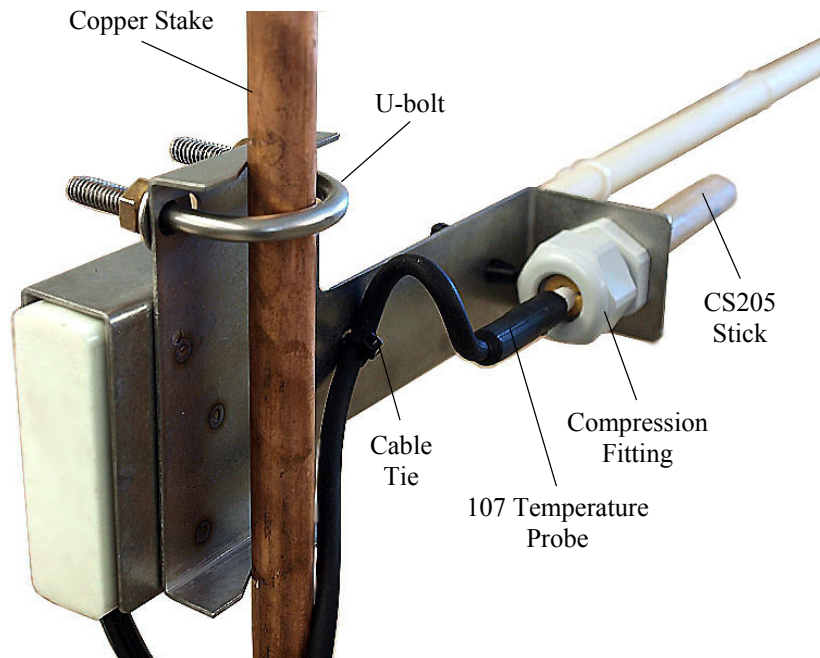
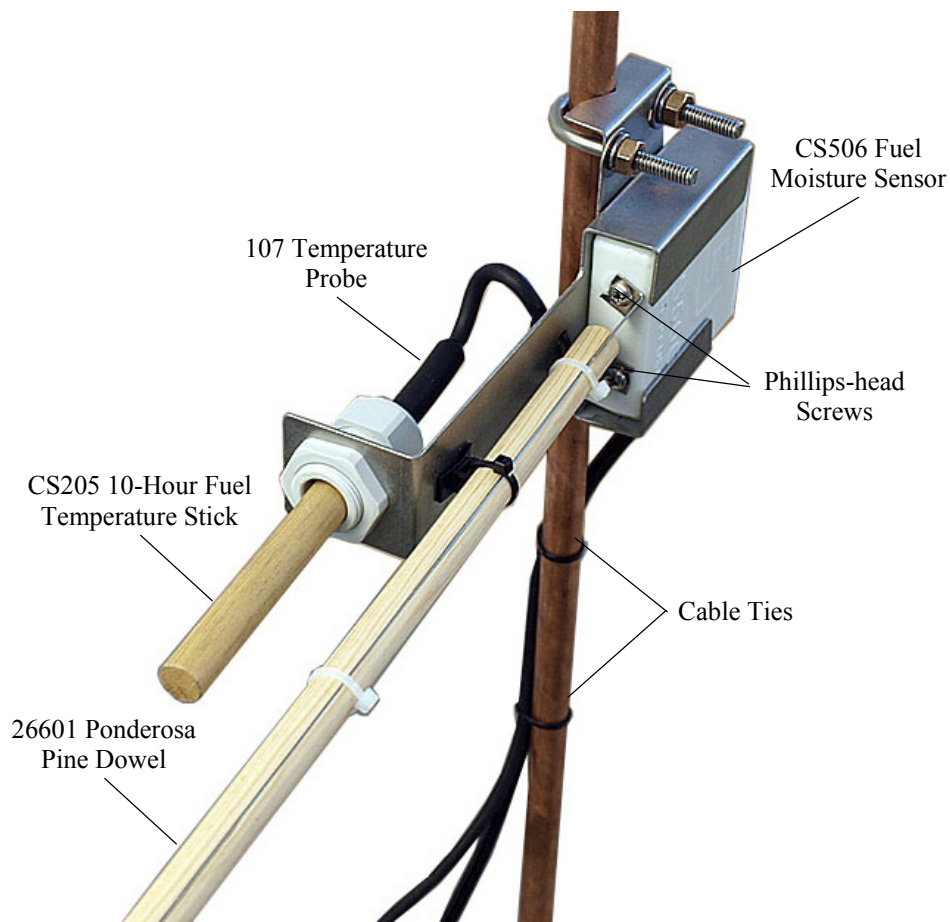

FIGURE 6-1. Back view of the 26817 fuel moisture/temperature mounting stake
FIGURE 6-2. Front view of the 26817 fuel moisture/temperature mounting stake
The CS205/107 is typically mounted with the CS506/26601 using the 26817 Mounting Kit (FIGURE 6-1 and FIGURE 6-2). The kit's bracket places the probes in a horizontal position.
10. Use the ultraviolet light resistant cable ties included in the 26817 mounting kit to secure the cables. One cable tie passes through the two slots in the bracket to loosely secure the cable of the CS205/107 (FIGURE 6-1). The other two cable ties secure both cables to the copper stake (FIGURE 6-2).